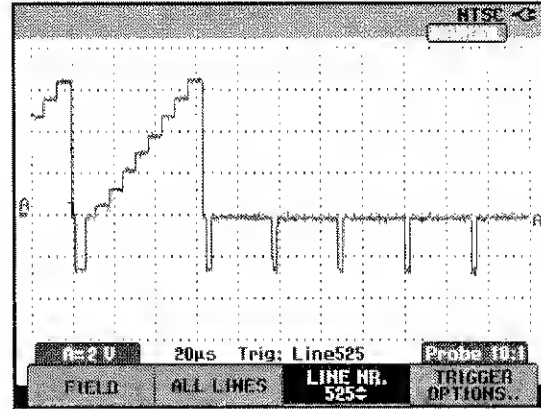

Figure 4-10. Trace for NTSC line 525
- 525 for NTSC, see Figure 4-10.